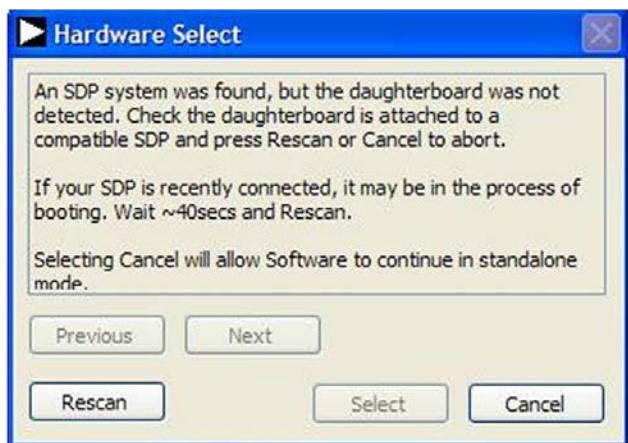

Figure 17. SDP Board Not Connected to the USB Port Pop-Up Window Error
2. If the SDP board is not connected to the USB port when the software is launched, a connectivity error displays (see Figure 17). If a connectivity error is displayed, connect the evaluation board to the USB port of the PC, wait a few seconds, click **Rescan**, and follow the instructions.